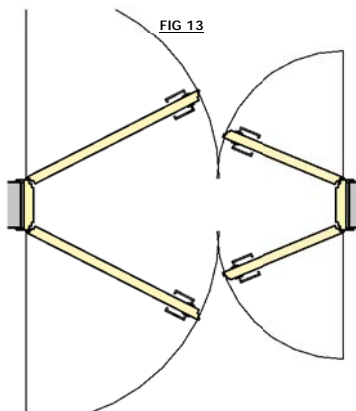

FIG 13
*DOUBLE PANEL VISIBILITY* as shown as Fig 13
They can be manually adjusted with the parameters under the Dimensions called *SYMBOL LINES OPENING ANGLE RIGHT* & *SYMBOL LINES OPENING ANGLE LEFT*. The Symbol lines will remain static at the position you require once adjusting, while you adjust the doors to a close position or a angle that you specify as shown in Fig 13